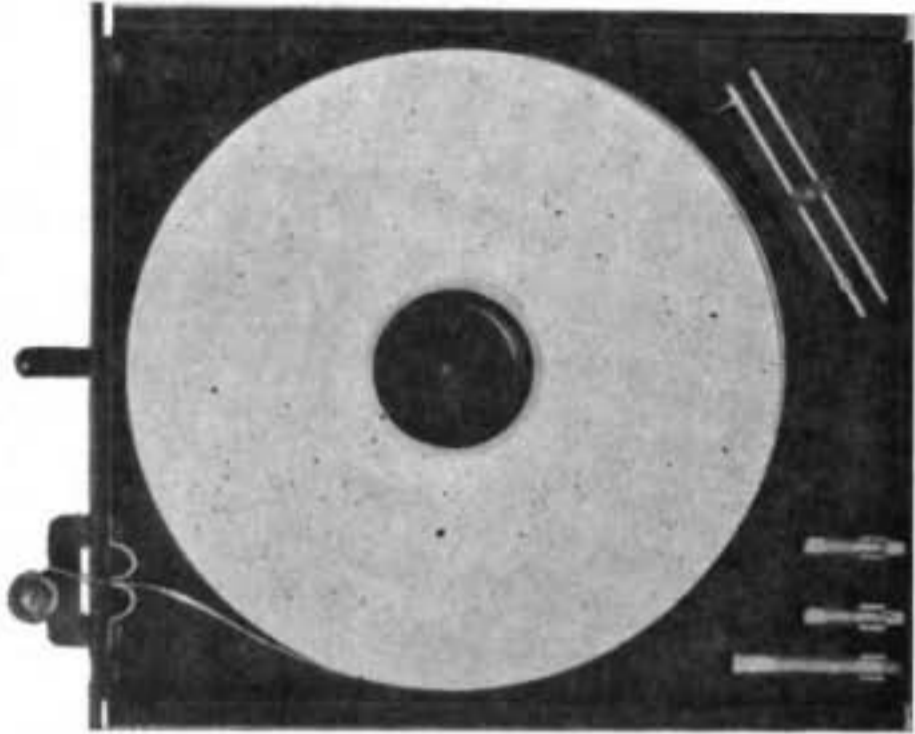
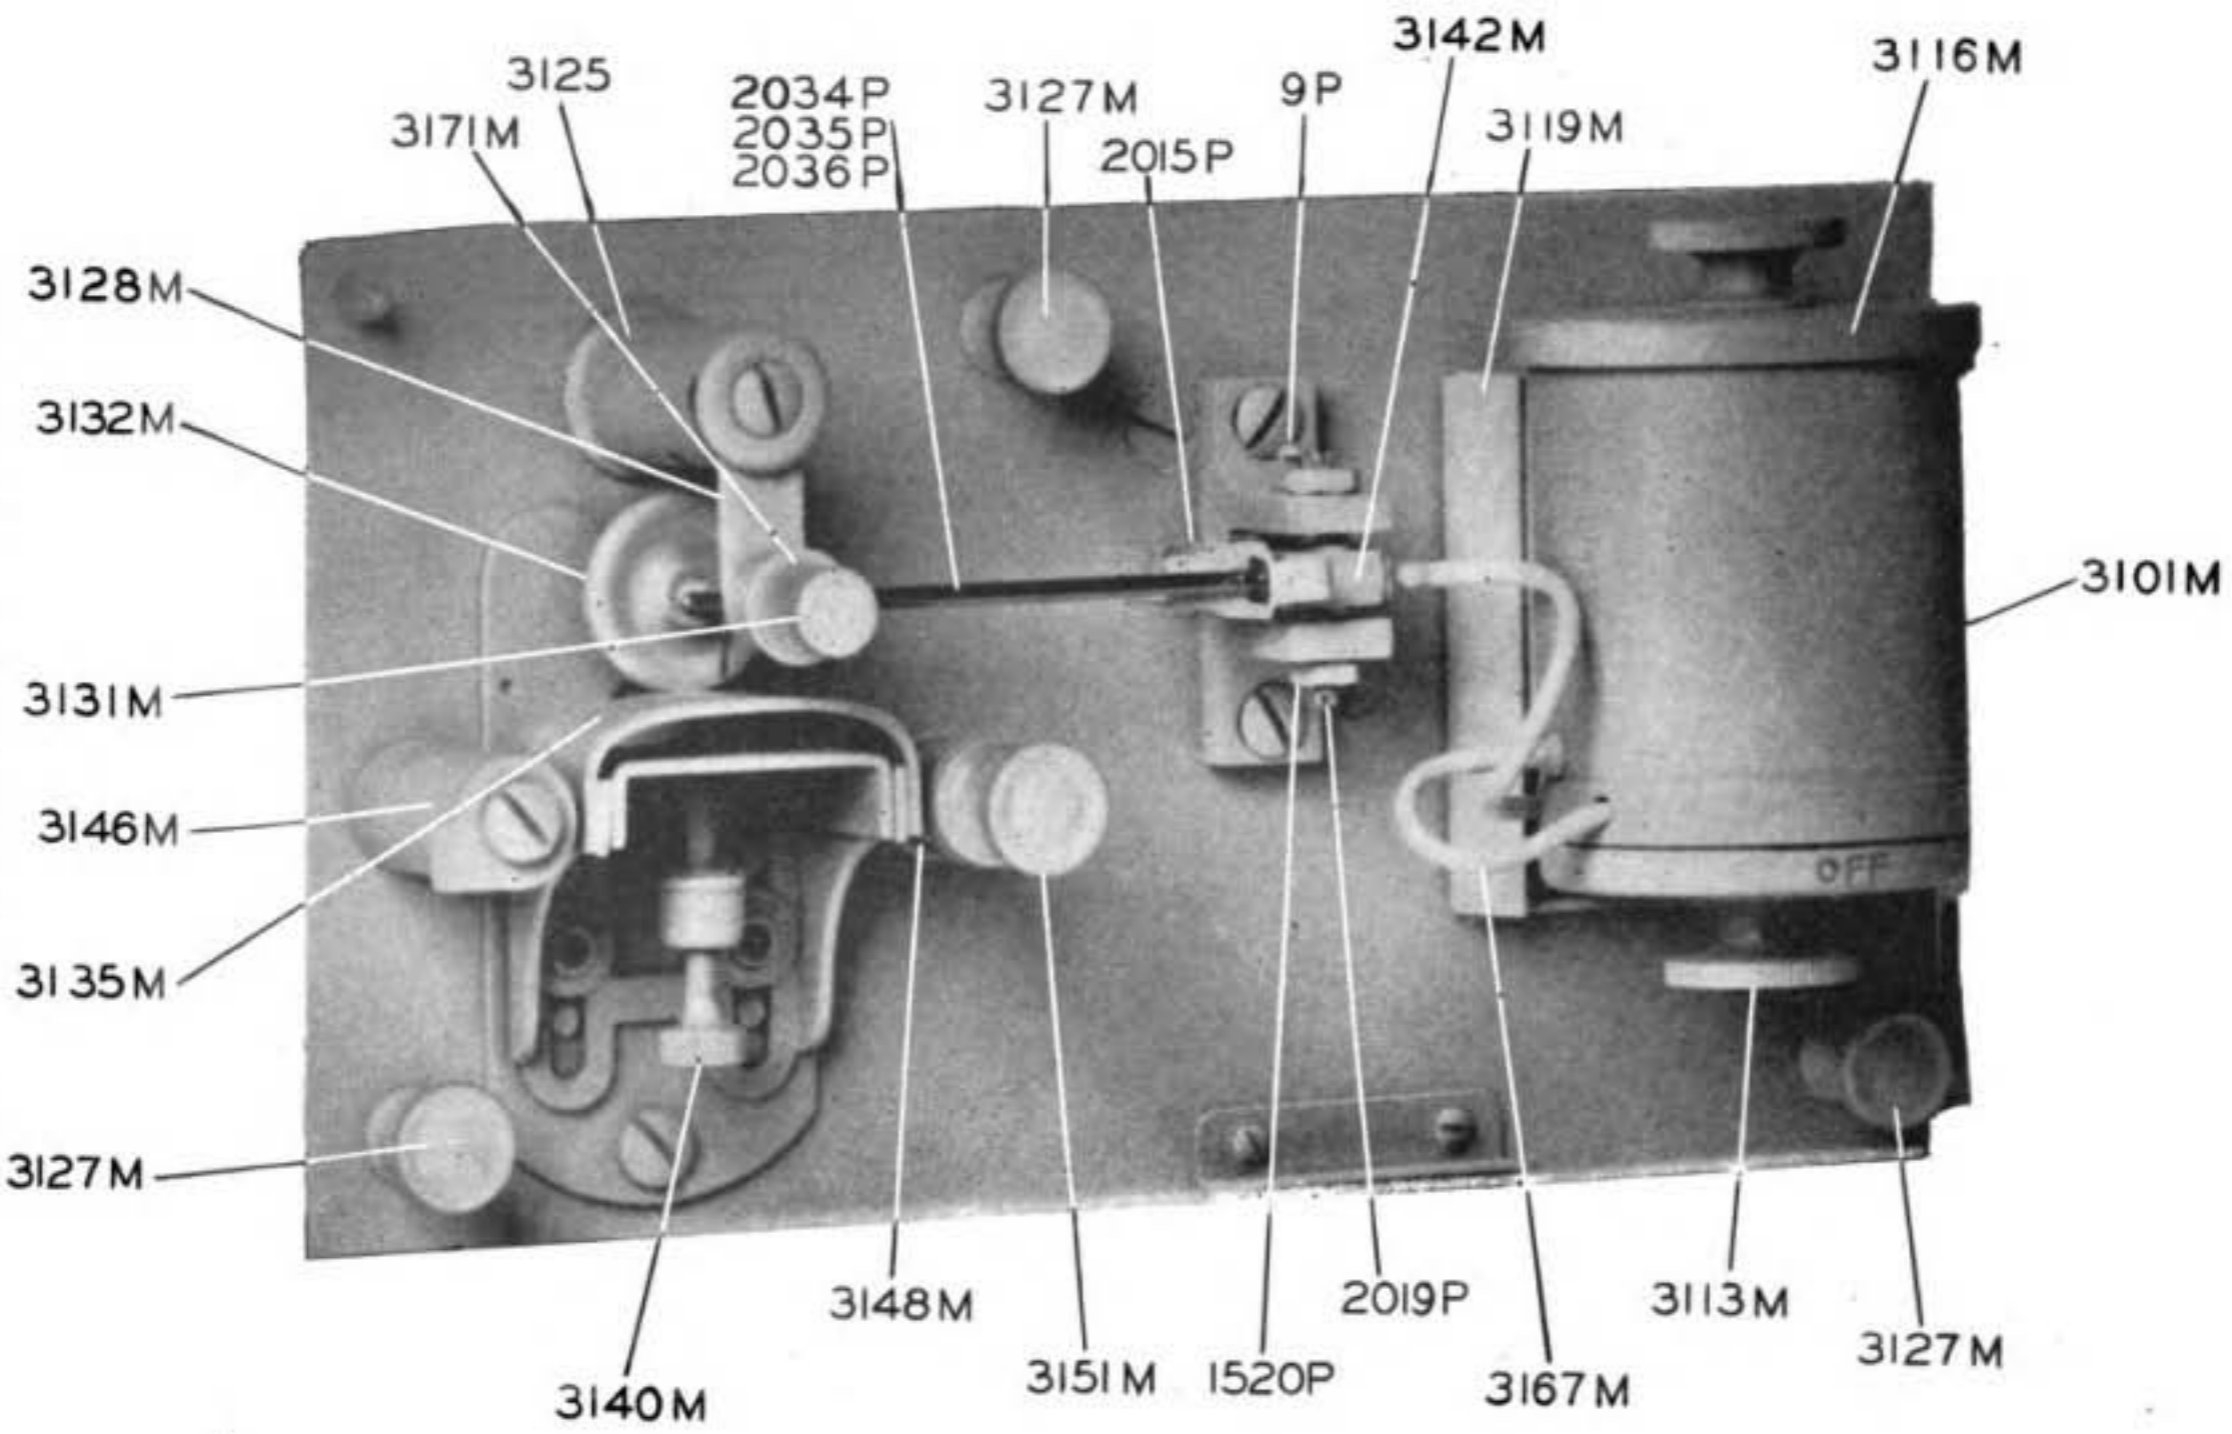

Figure 5—Recorder BC-1016, Tape Drawer With Tape Installed.
Figure 6—Recorder BC-1016, Inker Assembly.
7. SEE THAT A PEN OF THE PROPER WIDTH FOR THE USE TO WHICH THE RECORDER IS TO BE PUT IS IN PLACE. THE FINE LINE PEN (2036P) IS IN PLACE IN THE RECORDER WHEN ORIGINALLY SHIPPED. IF THE RECORDER IS TO BE USED FOR OTHER THAN HIGH SPEED COMMUNICATION PURPOSES, SELECT AND INSTALL THE PROPER PEN. THESE PENS WILL BE FOUND IN THE TAPE DRAWER. (SEE PAR. 7H AND FIG. 5.)
(Note: A panel light housing (3125, FIG. 6) is provided through which an electric lamp (2552P) illuminates the pen and tape while the recorder is in operation. If you ever have to operate the recorder continuously without general lighting, this lamp will enable you to do so.)
f. *Locating Paper On Anvil.*—Adjustment knob (3151M, FIG. 6) on which tape guide roller (3148M, FIG. 6) is mounted controls the location of paper tape on the anvil. Paper tape may be moved to any desired location on the anvil by turning adjustment knob in proper direction as determined by corresponding movement of paper tape.
(2) *Ink for Low Speed Recording.*—For low speed recording for instructional and training purposes a suspension type of ink is generally used, with the wide line pen. For this purpose you will be issued Higgins Eternal Black (stock number 6M615), or equal. Since the pen is apt to become clogged when this ink is used, refer to PAR. 7k (1), (2), and (3) for instructions for its use and for cleaning stopped up pens. **CAUTION: BE SURE THAT INK SUITABLE FOR THE USE TO WHICH THE RECORDER IS TO BE PUT IS AVAILABLE.**
h. *Selecting Pen.*—Three pens are supplied with each recorder (one installed and two in tape drawer, FIG. 5 and have the following applications:
(1) *Fine Line Pen (2036P).*—.015 inch line. Its use is primarily for communication purposes, that is, when the recording is made for visual reading. This pen should always be used for high speed recording with solution type ink [Telegraph Blue—see PAR. 7g (1)].
(3) *Wide Line Pen (2034P).*—.050 inch line. With the proper ink, [see PAR. 7g (2)] this pen is used at speeds less than 100 words per minute to produce the inked tape recording required for use with automatic photo cell keyers such as Keyer TG-34 or Keyer TG-10 which convert the ink record into an audible code signal.
i. *Inserting Pen.*—First lower tape anvil (3135M, FIG. 6) to at least 1/4 inch below pen point; swing pen adjusting arm (3128M, FIG. 6) out of the way to the left; select pen of appropriate width; hold pen (at pen point end) in left hand with point down and place other end of pen in pivot block (3142M, FIG. 6), sliding firmly into this block until collar on pen clears catch (2015P, FIG. 6). At this point, pen catch holds pen securely in position in pivot block.
j. *Adjusting Pen Stop Screws.*—(FIG. 6) Two variable pen stop screws (3131M) and (3132M) are provided for adjustment of pen swing width. Rear stop (3132M) maintains its adjustment by means of spring tension, but the front stop (3131M) is securely held in place by the lock nut (3171M). The stops can be adjusted for a maximum pen swing of practically the entire width of the 3/8-inch tape. This extreme pen swing will rarely or never be used and should be avoided. It may be used only with low speed recording. As the speed of recording is increased, the width of pen swing must be decreased. The load on the driving mechanism is increased as width of pen swing increases. For longest life of the driving and pen mechanisms, keep pen swing within reasonable limits. Normal operation at reasonable speeds calls for the setting of stops for a pen swing of about 3/16 inch at the most.
k. *Inker Assembly.*—(FIG. 6) Before filling ink cup (3101M), make sure that manual pump operated by knurled knob (3113M) on bottom of cup is at OFF as indicated by arrow at lower edge, and that transflex ink tubing (3167M) is securely in place on both cup and pivot block connections. Fill ink cup with appropriate ink to about two-thirds full. After filling, replace cover loosely so as to allow air to enter cup. **CAUTION: Do not screw cup cover down tight when recorder is in operation or ink will not flow continuously due to lack of air pressure.** Turn manual pump clockwise (to right) until enough ink comes through pen point to form a blot on the tape. Use blotter to absorb excess ink.
(1) If recorder has been used previously and ink does not flow evenly, the pen may need cleaning. This can be done roughly by using a pen reamer (3713M, FIG. 5) to remove ink particles which may have clogged the pen point tube. These pen reamers are in the tape drawer. Periodically, the pen should be removed from recorder and washed in appropriate solution. For certain inks (Telegraph Blue), warm water is satisfactory. For other inks, a suitable solvent should be used.
(2) Leave pump at ON when recorder is in operation. If recorder is to be transported with ink in cup, remove ink in pen, transflex ink tubing and pen block by turning knurled knob on bottom of cup counter-clockwise (to the left) until ink has been pumped back into cup. Then leave pump at OFF and screw ink cup cover down tight. Suspension type inks have a tendency to precipitate solid matter. If ink of this type is left in the pen point for too long a period, such precipitation may occur and will necessitate cleaning of pen point. When recorder will not be used for a reasonable time, withdraw the ink from the pen and transflex tubing into the cup in the manner described above. This will reduce chances of the pen point becoming clogged. This precaution is not necessary when ink of the solution type such as Telegraph Blue is used.
(3) The ink cup can be raised by sliding it upwards in its bracket (3119M, FIG. 6). Ordinarily this is not necessary, but with certain suspension types of thick ink, (such as Higgins Eternal Black), especially when it is used with the wide line pen (which requires a more than normal flow of ink), better operation may be secured by raising the ink cup. This allows gravity to aid the normal ink flow due to capillary action. If ink flow is too free, lower the ink cup.